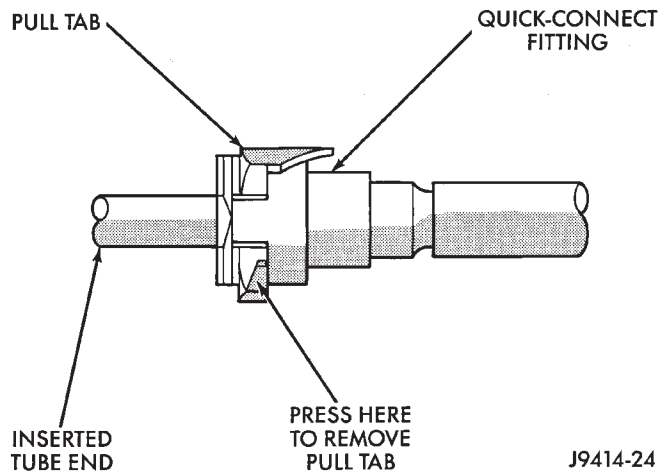

Fig. 13 Single-Tab Type Fitting
(1) Perform fuel pressure release procedure. Refer to Fuel Pressure Release Procedure in this group.
(2) Disconnect negative battery cable from battery.
(3) Clean fitting of any foreign material before disassembly.
(4) **Single-Tab Type Fitting:** This type of fitting is equipped with a single pull tab (Fig. 13). The tab is removable. After tab is removed, quick-connect fitting can be separated from fuel system component.